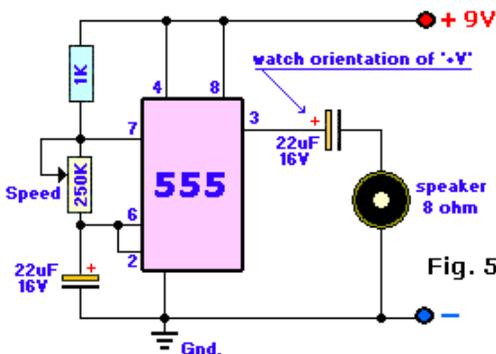

Fig. 5
*Try the simple 555 testing-circuit of Fig. 5. to get you going, and test all your 555 timer i.c.'s. I build several for friends and family. I bring my own tester to ham-fests and what not to instantly do a check and see if they are oscillating. Or use as a trouble shooter in 555 based circuits. This tester will quickly tell you if the timer is functional or not. Although not foolproof, it will tell if the 555 is shorted or oscillating. If both Leds are flashing the timer is most likely in good working order. If one or both Leds are either off or on solid the timer is defective. Simple huh?*
**Fig. 5, Metronome:** A Metronome is a device used in the music industry. It indicates the rytme by a 'toc-toc' sound which speed can be adjusted with the 250K potentiometer. Very handy if you learning to play music and need to keep the correct rytme up.